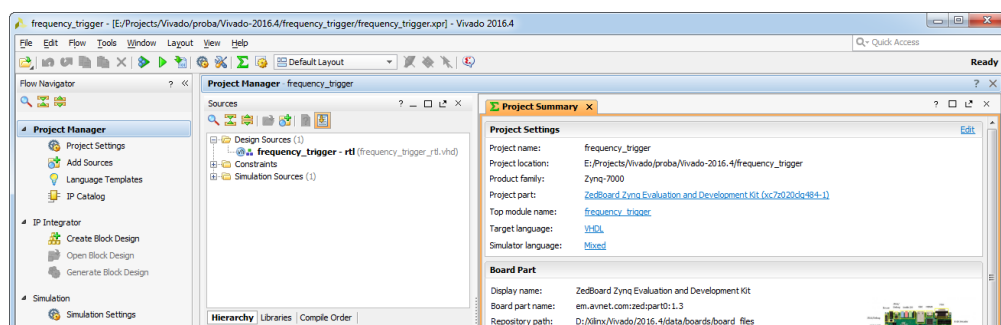

Figure 3. Created new frequency_trigger project
- 1-1-11. Click **Finish** to create the Vivado project. After we finished with the new project creation, in a few seconds Vivado IDE will appear with the created **frequency_trigger** project (Figure 3).